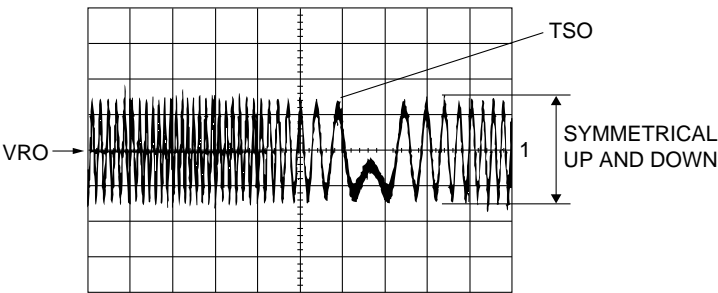

Figure 10-2
*1: Adjust to obtain vertically symmetrical waveform (Fig. 10-2) with respect to reference DC level. The reference level is VRO (Approx DC 2.1V).